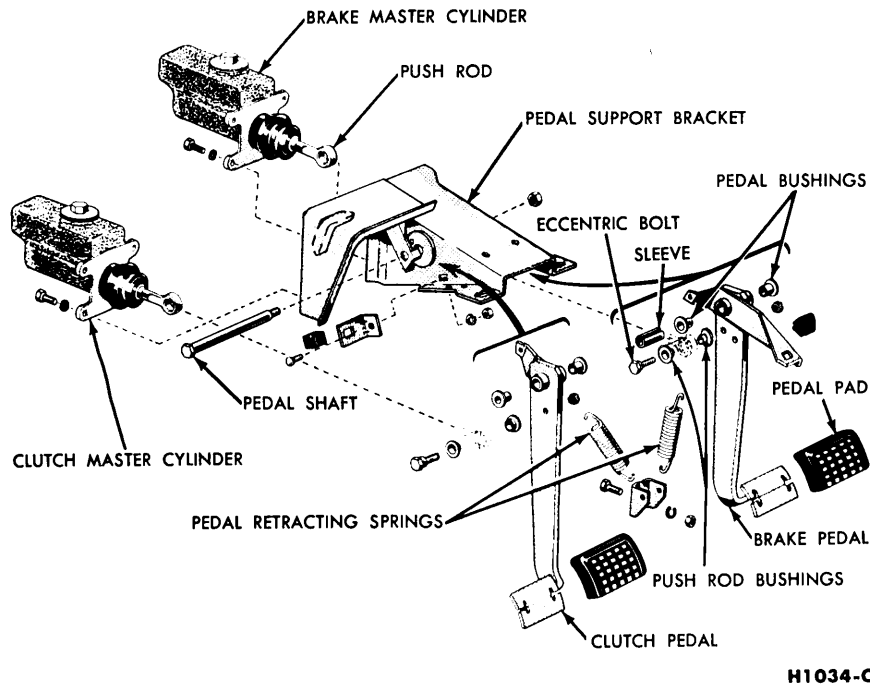

FIG. 14—B-, F-, N-, or T-Series Brake Pedal and Related Parts
1. Remove the brake pedal retracting spring (Fig. 14).